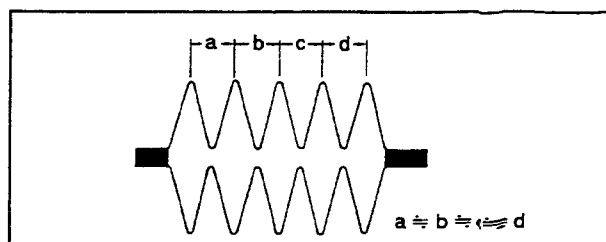

Fig. 42
4-5. CUE AND REV WAVEFORM CHECK (Fig. 42)
- 1) Play back the alignment tape for tracking adjustment and set the REV mode. Confirm that waveform peaks maintain a constant pitch of 5 seconds or more (Fig. 42). In case pitch is not constant, perform section 4-2. Tracking Fine Adjustment and section 4-4. No.7 Guide Adjustment.
- 2) Set the CUE mode. Confirm that waveform peaks still maintain a constant pitch of 5 seconds or more (Fig. 42). Otherwise, perform section 4-2 Tracking Fine Adjustment.